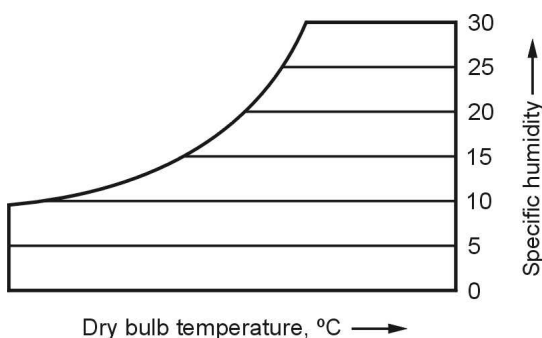

Fig. 5.59 : Specific humidity lines
- These lines are horizontal i.e. parallel to the abscissa and are also uniformly spaced as shown in Fig. 5.59.